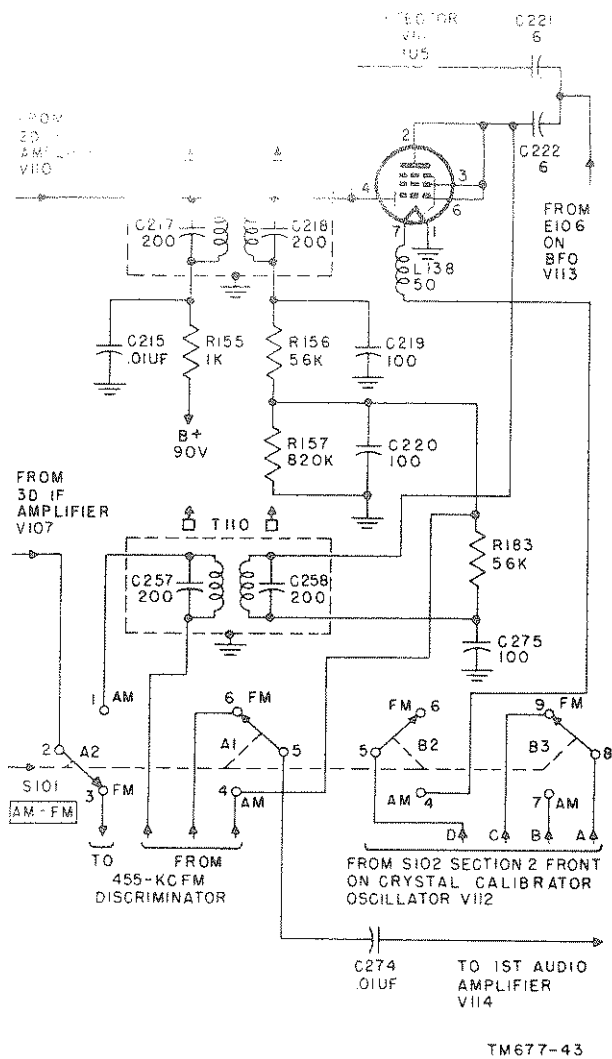

Figure 43. Radio Receiver R-395/PRD-1, functional diagram of detector.
The screen bypass capacitor for V110 is C214 and R154 is the screen decoupling resistor. The heater choke for V110 is L137. The output of V110 is transformer-coupled (fig. 43) to detector V111.
b. For 1,610-kc am operation, the if. frequency from the mixer passes through S102, TB101, and S101-D2 and is then transformer-coupled through the primary and secondary windings of T104 to the grid (pin 6) of V105. The output of V105 is then transformer-coupled through T106 to V106, and the output of V106 is transformer-coupled through T108 to V107. The am output of V107 is transformer-coupled through T110 (fig. 43) to detector V111 for the 1,610-kc am operation.
c. For 455-kc operation, L134 and C196 comprise the tuned circuit. BFO PITCH control C200A is in series with the tuned circuit; it varies the oscillating frequency of the bfo approximately ± 5 kc of the center frequency. This varying frequency changes the audio pitch heard in the headset when the bfo is in operation. Capacitors C194 and C221 (fig. 43) couple the 455-kc bfo output to detector V111.
d. For 1,610-kc operation, L135 and C197 comprise the tuned circuit. BFO PITCH control C200B operates the same as C200A (par. *c* above). Capacitors C195 and C222 (fig. 43) couple the 1,610-kc bfo output to detector V111.
(fig. 43)